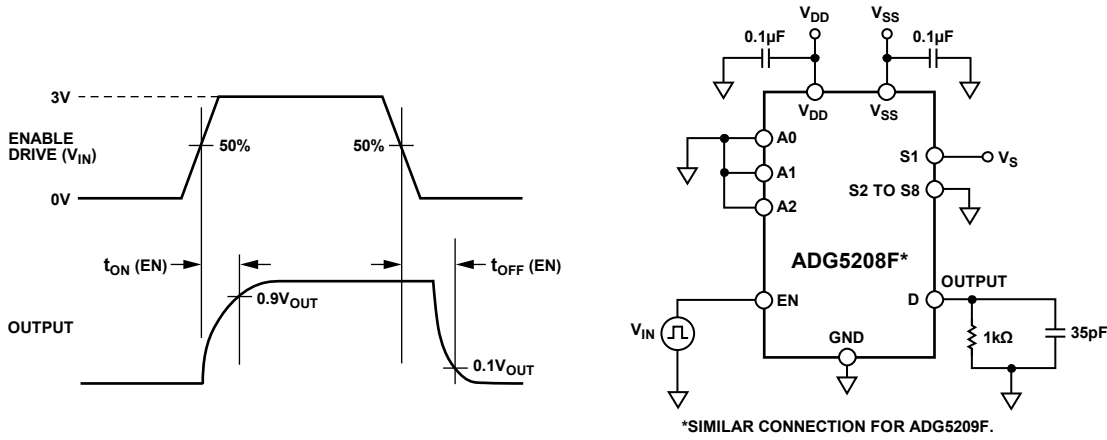

Figure 44. Enable Delay, $t_{ON}(EN)$, $t_{OFF}(EN)$
t_{ON} (EN) represents the delay between applying the digital control input and the output switching on (see Figure 44).
t_{OFF} (EN) represents the delay between applying the digital control input and the output switching off (see Figure 44).